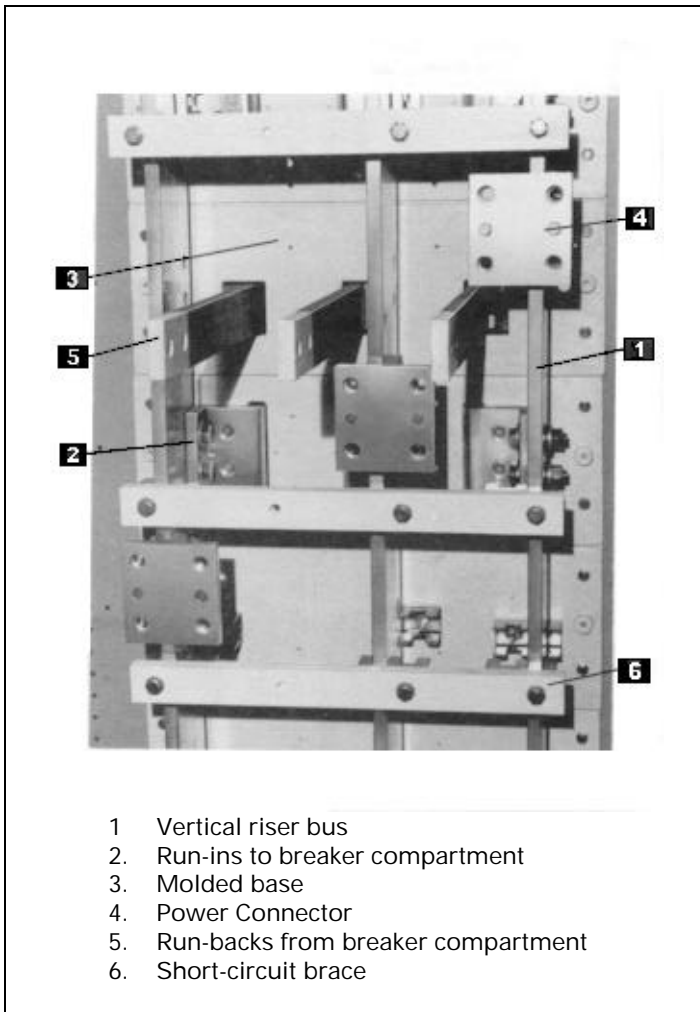

Fig. 3-14. Bus construction
The bus area, Fig. 3-14, contains the main horizontal bus and vertical riser bus bars (1) for the particular section. The vertical bus bars are supported at the breaker run-ins (2) that are bolted to the molded bases (3) that form the rear wall of the breaker compartment. The horizontal bus bars are supported by the power connectors (4), which are bolted to the vertical bus bars. All bolted supports and connections are accessible from the rear for maintenance. The bus area is fully isolated from the breaker, instrument and auxiliary compartments by the molded bases or glass polyester sheet.